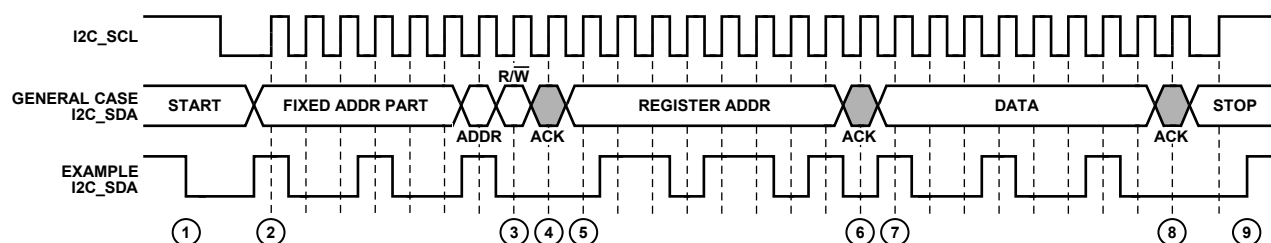

Figure 28. I2C Write Procedure
To write data to the AD8192 register set, an I2C master (such as a microcontroller) needs to send the appropriate control signals to the AD8192 slave device. The signals are controlled by the I2C master unless otherwise specified. For a diagram of the procedure, see Figure 28. The steps for a write procedure are as follows:
3. Send the write indicator bit (0).
- a. Send a stop condition (while holding the I2C\_SCL line high, pull the I2C\_SDA line high) and release control of the bus to end the transaction (shown in Figure 28).